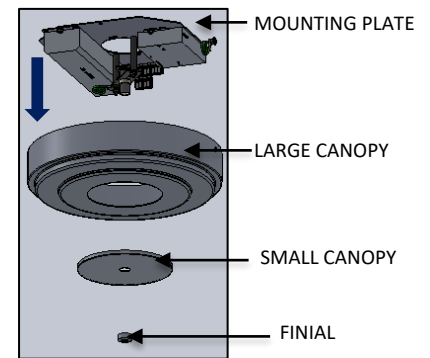

FIG. 7 – CANOPY DIS-ASSEMBLY
2. Unscrew the CANOPY FINIAL and remove CANOPIES. Be careful not to scratch finish as shown in FIG. 7.